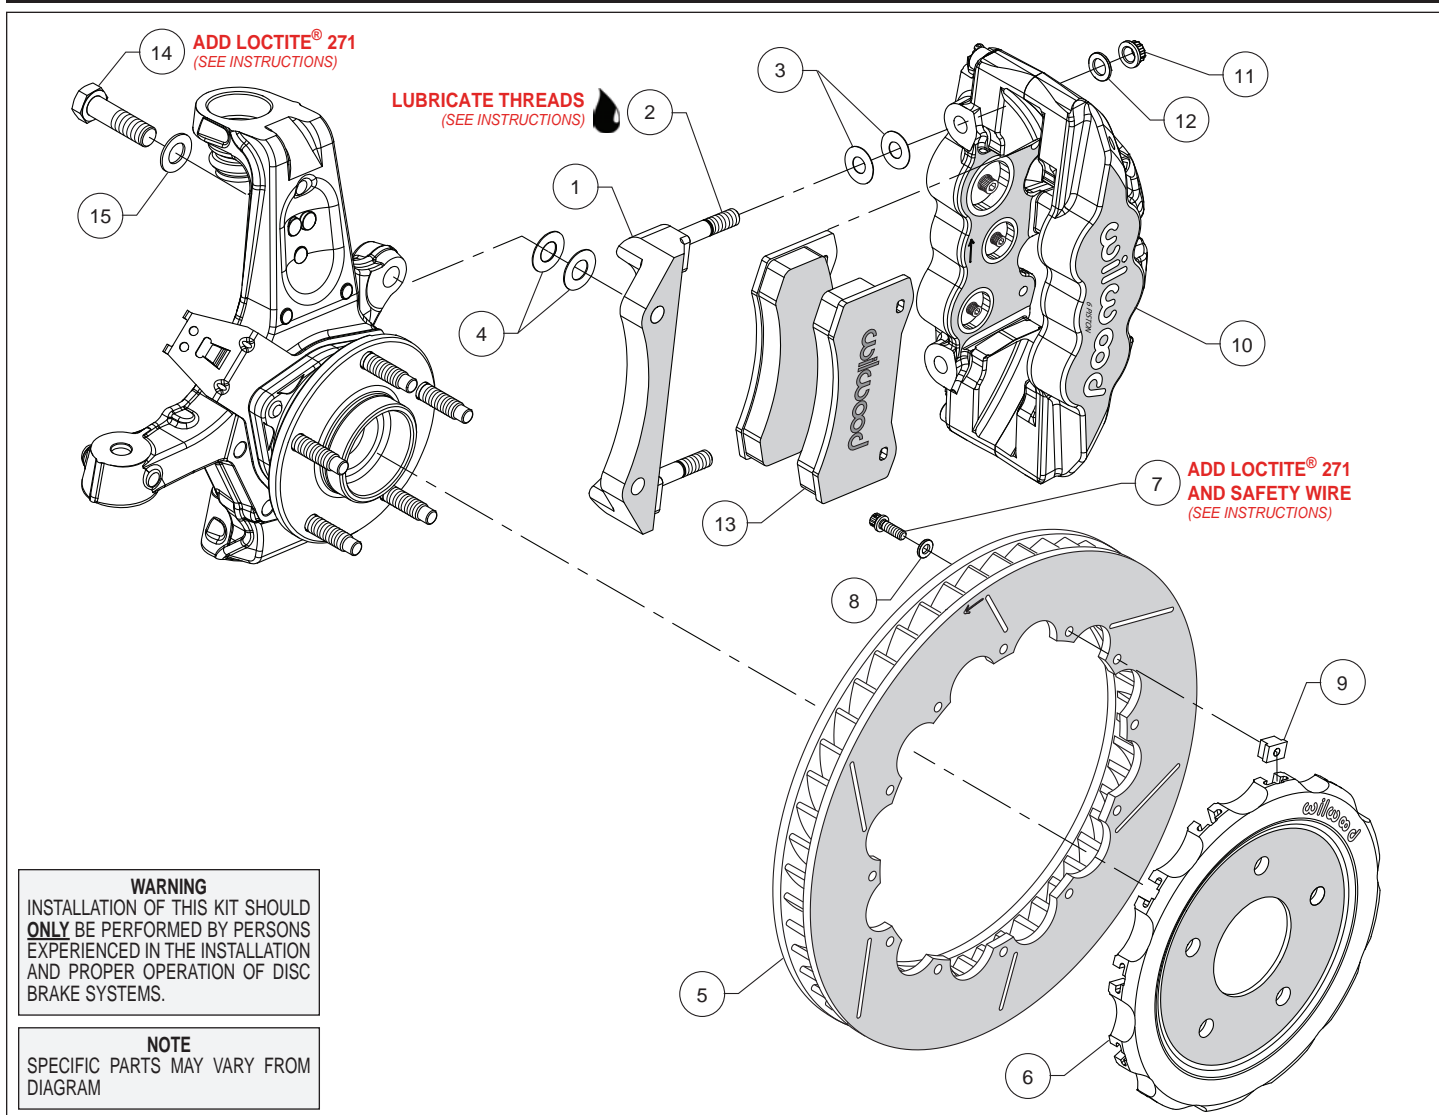
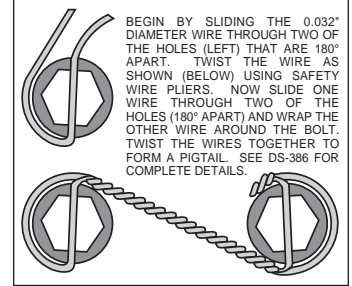

Figure 1. Typical Installation Configuration
Figure 3. Safety Wire Diagram
Assembly Instructions (numbers in parenthesis refer to the parts list and Figure 1 on the preceding pages):
- The caliper mount bracket (1) should initially be installed with clean, dry threads on the mounting bolts. Orient the bracket, as shown in Figure 1 and install using bolts (14) and washers (15). Initially place two .029" thick shims (4) on each bolt between the bracket and upright, Figure 1. Temporarily tighten the mounting bolts. **NOTE:** *The bracket must fit squarely against the mount bosses on the upright.* Inspect for interference from casting irregularities, machining ridges, burrs, etc. Later, after the caliper alignment has been checked, the mount bolts will be secured using red *Loctite*® 271.
- Orient the rotor (5) and the hat (6) as shown in Figure 1 and Photo 1. Assemble using bolts (7), washers (8), and t-nuts (9), Figure 1. Follow additional instructions included with the bolt kit. Using an alternating sequence, apply red *Loctite*® 271 to the threads, and torque to 120 **in-lbs**. Safety wire bolts using standard 0.032 inch diameter stainless steel safety wire as shown in Figure 3. Refer to Wilwood's data sheet DS-386 (available at www.wilwood.com/Pdf/DataSheets/ds386.pdf) for complete safety wire installation instructions.
- NOTE:** *This kit contains distinct right and left hand calipers that must be mounted in a specific direction, as described below.* Lubricate the caliper mounting studs (2) with lightweight oil. Initially place two .016" thick shims (3) on each stud between the caliper and the bracket, as shown in Figure 1 and Photo 2. Mount the caliper (10) onto the bracket (1) using lock nuts (11) and washers (12), Figure 1. Temporarily tighten the lock nuts. Ensure that the caliper is mounted so the largest pistons are at the rotor exit end of the caliper, in relation to the direction of the rotor. View the rotor through the top opening of the caliper. The rotor should be centered in the caliper, Photo 3. If not, adjust by adding or subtracting shims (4) between the bracket and the upright. Always use the same amount of shims on each of the two mounting bolts. Once the caliper alignment is correct, remove the bracket mounting bolts one at a time, apply red *Loctite*® 271 to the threads, and torque to 77 ft-lbs.
- Remove the two pad retaining pins from the caliper (10) by carefully popping out the pin retaining clips and sliding out the pins. Insert the brake pads (13) into the caliper from the bottom, Figure 1 and Photo 4. With the friction material facing the rotor, secure the brake pads in place with the pad retaining pins and clips, Photo 5. Reinstall the caliper onto the caliper mounting bracket and temporarily tighten the lock nuts. Check that the top of the brake pad is flush with the outside diameter of the rotor, Photo 6. If not, adjust by adding or subtracting shims (3) between the caliper and the bracket. After the caliper pad height is set, torque the caliper lock nuts (11) to 47 ft-lb.